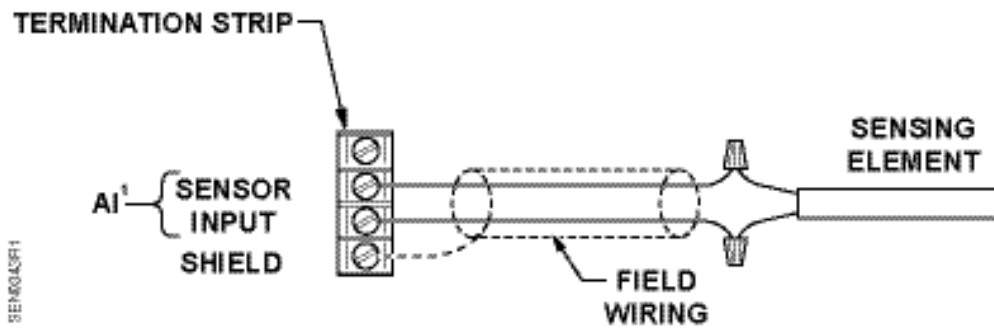

Figure 4. Wiring to a Controller.
4. Pull the field wiring to the pulling elbow and connect the field wiring to the Sensing Element. See Figure 4.